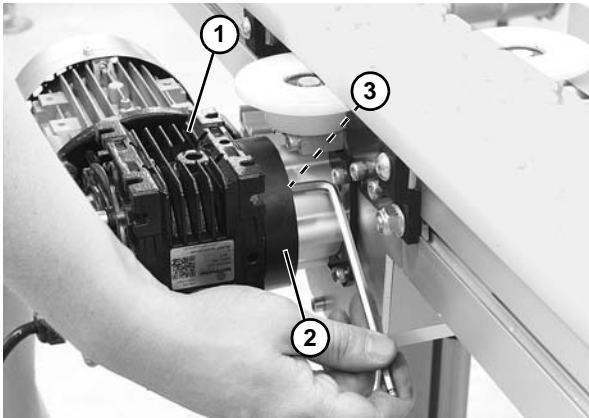

Figure 72
11. Install drive package (**Figure 72, item 1**) to drive motor mounting bracket (**Figure 72, item 2**) using four socket head screws (**Figure 72, item 3**).